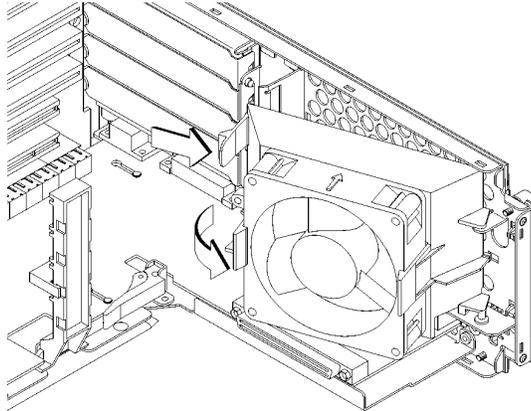

Figure 47 Rotating the EISA Fan
- 8 Make sure that the EISA fan is fully rotated, as shown in Figure 47.